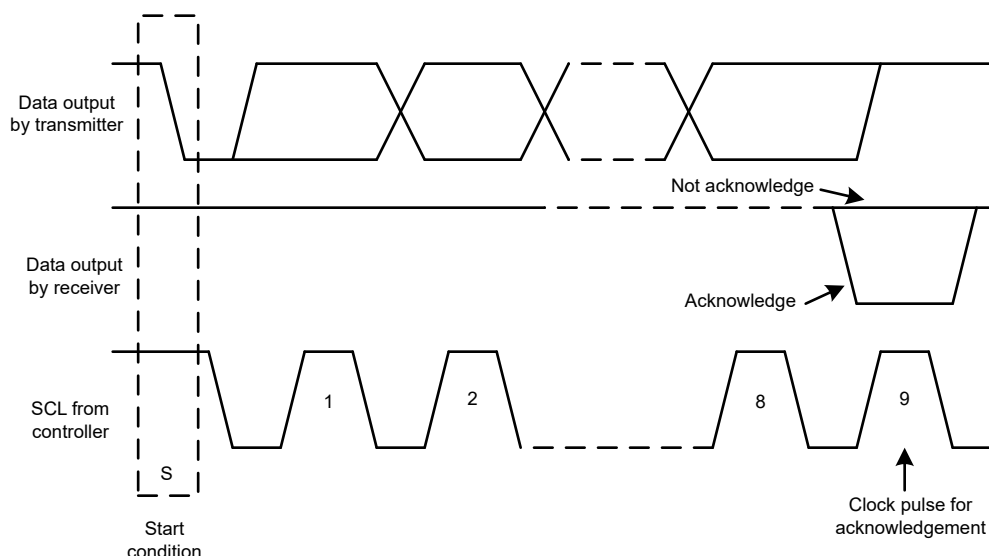
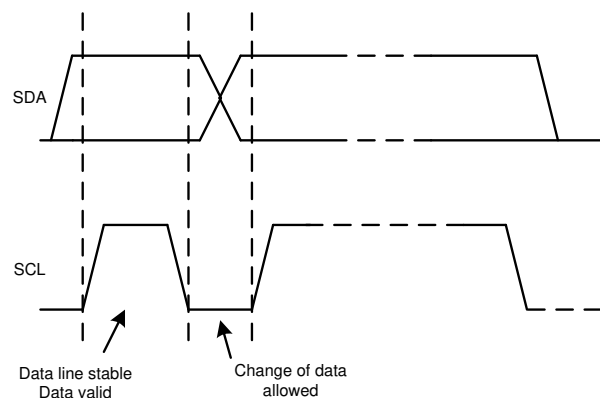

Figure 7-14. Acknowledge and Not Acknowledge on the I²C Bus
Figure 7-16. Bit Transfer on the I²C Bus
Other than specific timing signals, the I²C interface works with serial bytes. At the end of each byte, a ninth clock cycle generates and detects an acknowledge signal. An acknowledge is when the SDA line is pulled low during the high period of the ninth clock cycle. A not-acknowledge is when the SDA line is left high during the high period of the ninth clock cycle, as shown in Figure 7-14.
2. The controller then generates the SCL pulses, and transmits the 7-bit address and the read/write direction bit (R/\overline{W}) on the SDA line. During all transmissions, the controller makes sure that data are valid. A valid data condition requires the SDA line to be stable during the entire high period of the clock pulse, as shown in Figure 7-16. All devices recognize the address sent by the controller and compare the address to the respective internal fixed address. Only the target device with a matching address generates an acknowledge by pulling the SDA line low during the entire high period of the 9th SCL cycle, as shown in Figure 7-14. When the controller detects this acknowledge, the communication link with a target has been established.